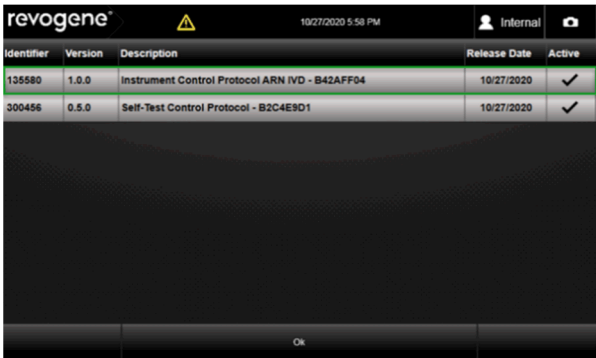

Figure 11. Insrtument Control Protocol Window
6. Tap on the <View Profiles> tab. The new Instrument Control Protocol ARN IVD (.xml) (identifier 135580) should be listed with version 1.0.0. (Figure 11)